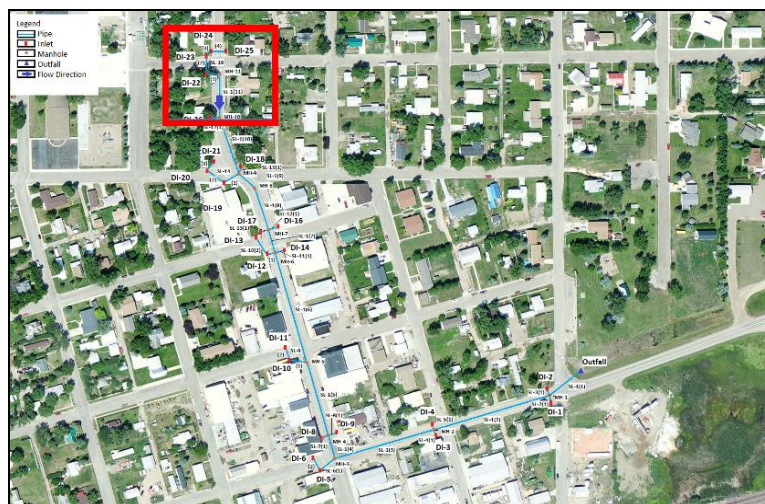

Figure 2 Zoom in to the area marked in red
2. Zoom into the area shown in Figure 2.